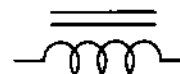

Figure 1
12. What type of inductor is shown in Figure 1?